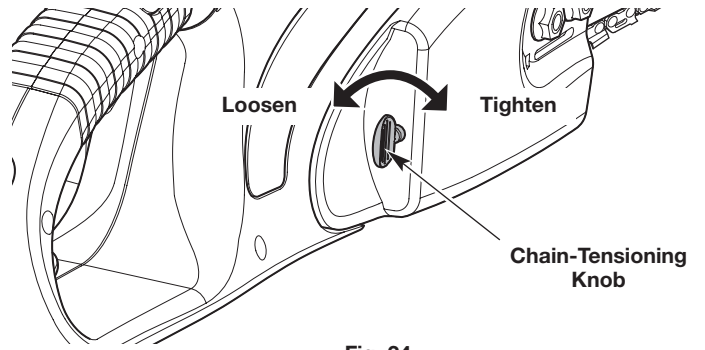
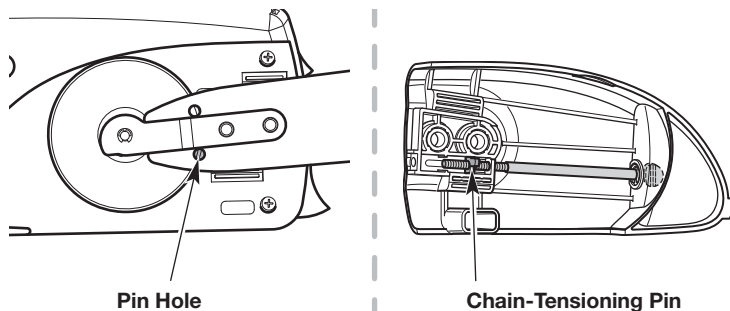

Fig. 24
Fig. 30
2. Hold the guide bar tip up and turn the chain-tensioning knob (Fig. 24).
7. Make sure the chain-tensioning pin is in the pin hole on the guide bar (Fig. 30). If necessary, turn the chain-tensioning knob to move the chain-tensioning pin (Fig. 24).